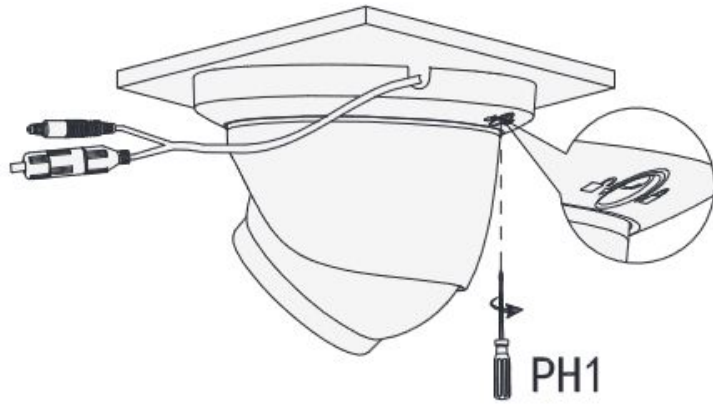

Figure 2-5
Step 5 Secure the camera by turning the locking screw to the locked position. See Figure 2-5.